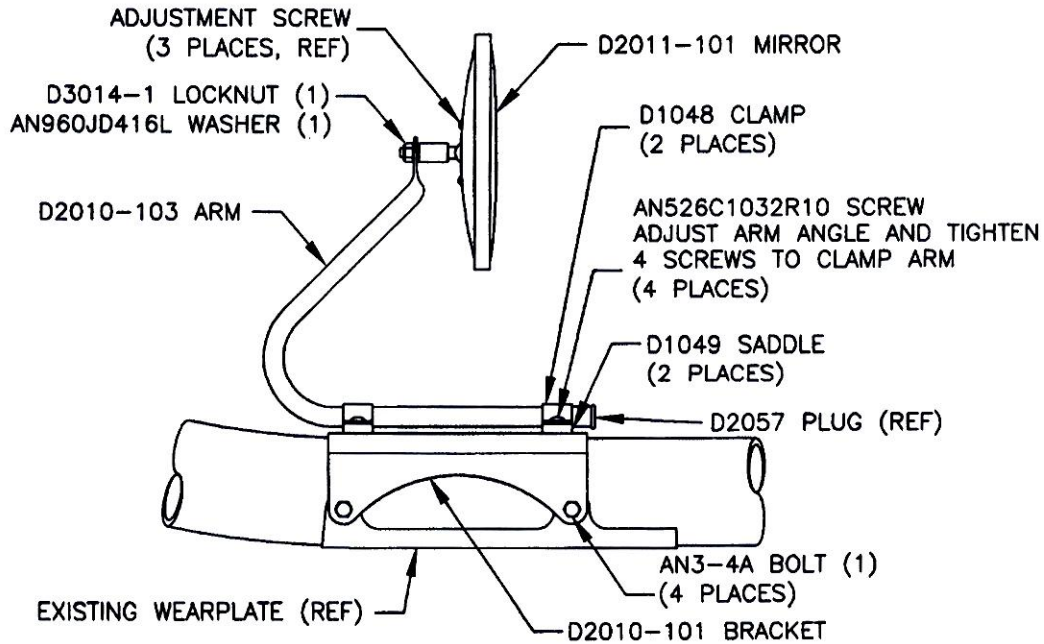

Figure 2: Installation of D500-560-041 Cargo Mirror Assembly
2. Install the D2010-101 Bracket above the forward wearplate. The bolts should be sealed with Sikaflex-241/-291 or Proseal 890 or MIL-S-8802 Class 'B2' sealant before installing as per Figure 2.
3. Install remaining hardware per Figure 2. Adjust the angle of the D2010-103 Arm and tighten the AN526C1032R10 screws to secure arm.
4. To adjust the mirror: loosen (DO NOT REMOVE) the three adjustment screws shown in Figure 2, reposition the mirror, then tighten the screws.